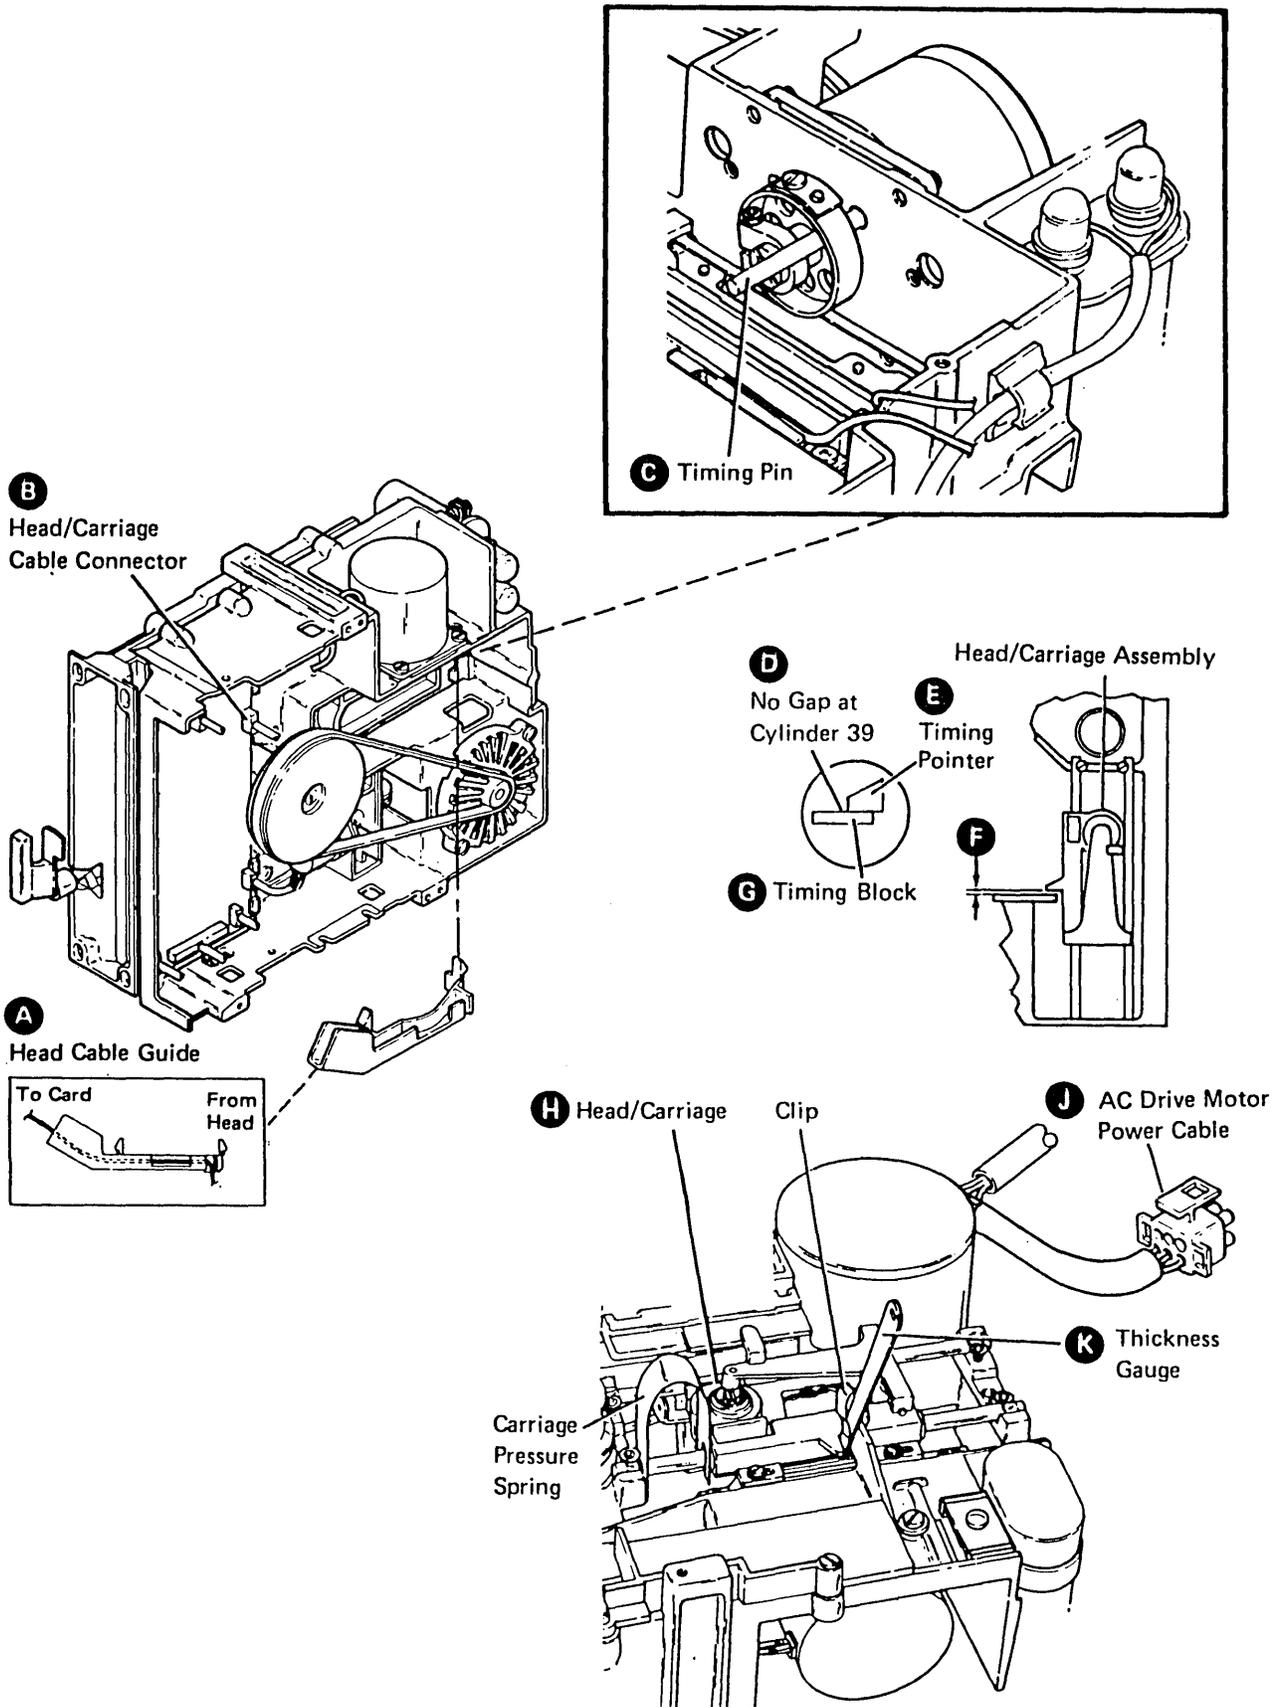

Figure F-22. Head/Carriage Service Check
F.3.2.1 Head/Carriage Service Check (Figures F-22, F-23)